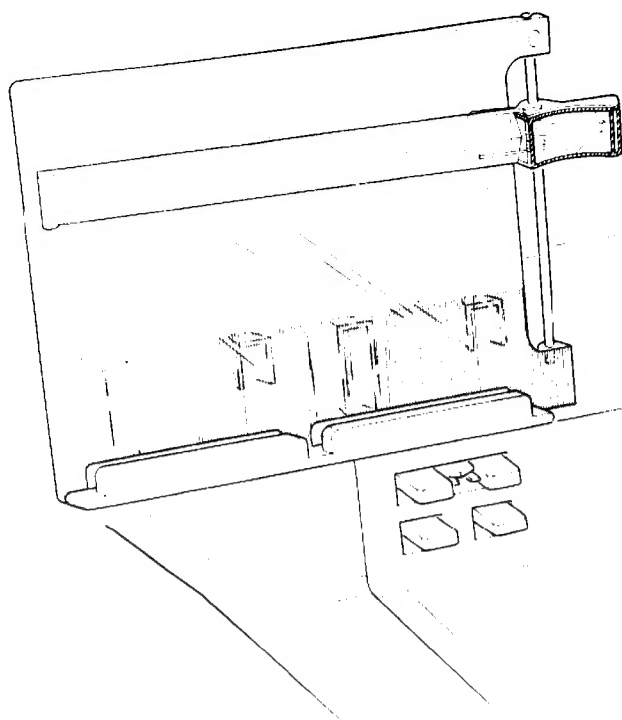

Fig. 2.5 LECTERN ON FRONT OF COVER
- 2.25 Fit the lectern to the front of the cover Fig. 2.5, making sure that the lectern is correctly fitted.
- 3.12 Fit the lectern to the front of the cover Fig. 2.5, ensure that the lectern is correctly fitted in the required position.